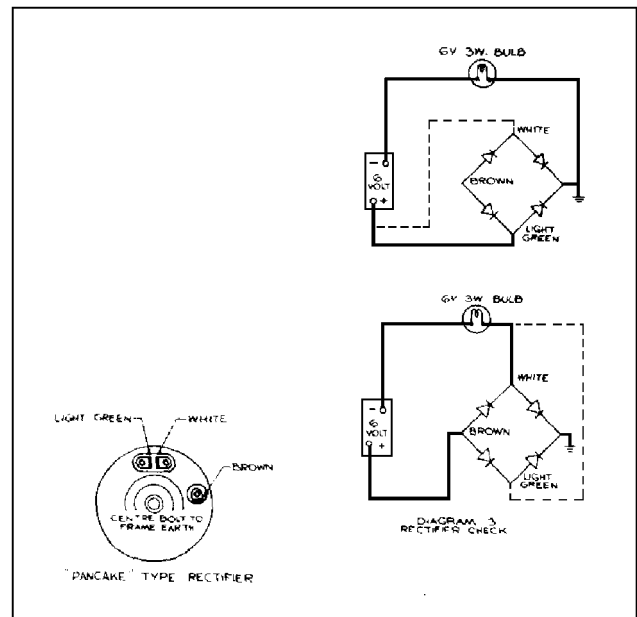

FIG. 95 A
For this test use a 6 volt battery connected to a 3 wall bulb and holder. Connect the battery and bulb holder wire across the rectifier as shown in diagram (A) (Fig. 95).